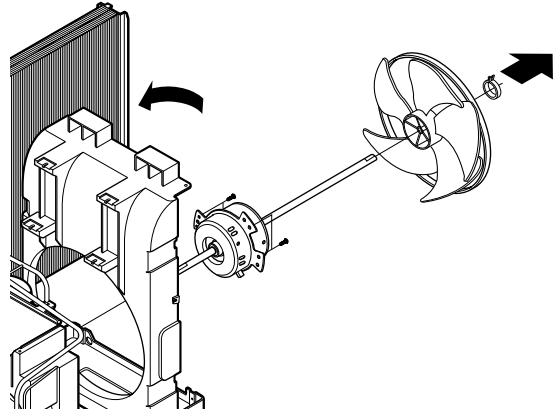

Figure 15
4. Remove the 4 screws which fasten the motor from the Motor Mount. (See Figure 15)
6. Re-install the components by referring to the removal procedure, above.(See Figure 15)